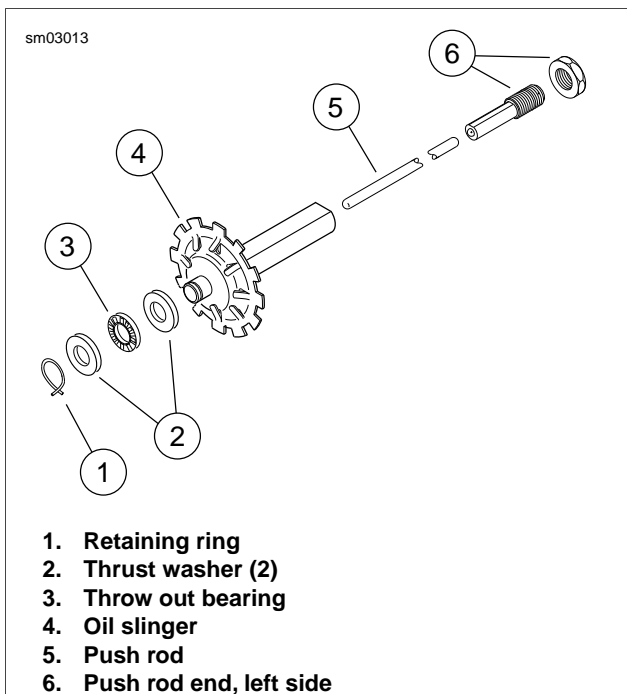

Figure 7-7. Push Rod Assembly
5. See Figure 7-7. Remove oil slinger assembly from mainshaft. Remove push rod.